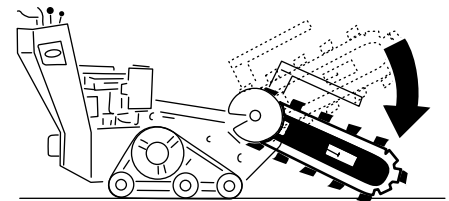

Figure 21
2. Lower the boom (Figure 21).